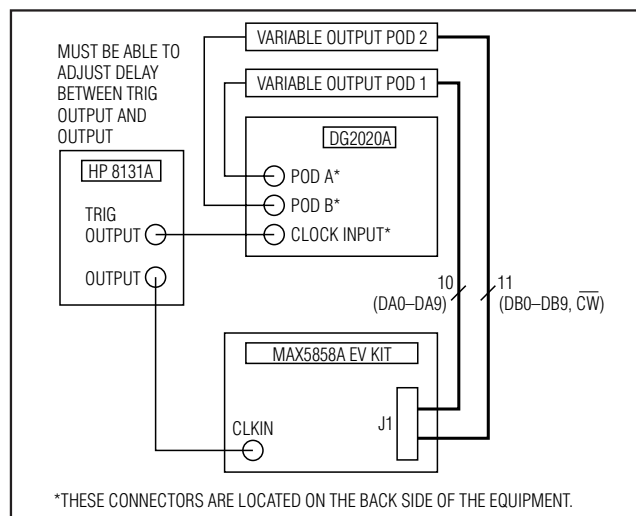

Figure 2. Quick Start Setup for PLL Enabled Mode
**Caution:** Do not turn on power supplies or enable signal generators until all connections are completed (Figure 2).
- 8) Connect the TRIG OUTPUT (clock synchronize signal) of the HP 8131A to the clock input on the back side of the data generator (Sony/Tektronix DG2020A). See Figure 2 for the equipment setup connections.
- 11) Connect data generator POD A to the first variable output POD (1). Connect output channels CH9 through CH0 of the variable output POD 1 to the MAX5858A EV kit connector J1, as indicated in Table 10.
- 12) Connect data generator POD B to the second variable output POD (2). Connect output channels CH9 through CH0 of the variable output POD 2 to the MAX5858A EV kit connector J1, as indicated in Table 11.